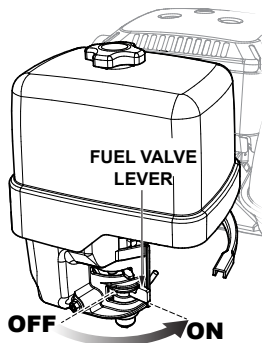

Figure 19. Fuel Valve Lever (ON)
1. Place the fuel valve lever (Figure 19) in the **ON** position.